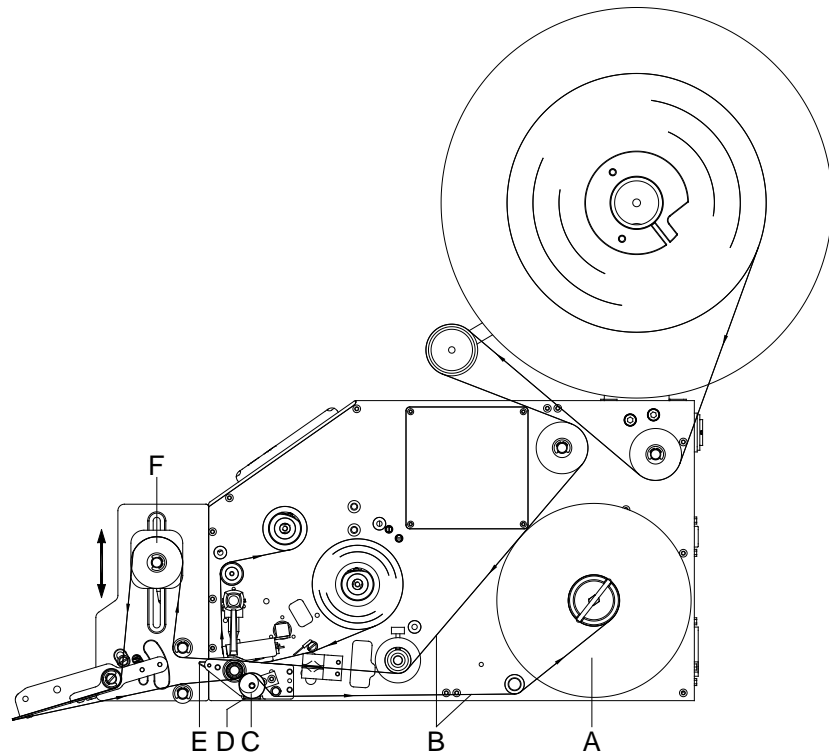

Figure 5
1. Move the dispensing rocker (D, Figure 5) forwards/upwards by pulling out the knurled knob (C, Figure 5).
2. Loosen the screw (C).
3. Change the angle position of dispensing edge (B) as required. For this shift the stop bolt (A) along the elongated hole in the base plate (D). Shift upward increases the dispensing angle and shift downward reduces the dispensing angle.
4. Fix the position of stop bolt by tightening the screw (C). If necessary insert a slotted screwdriver in the slot of the stop bolt (A) to facilitate the tightening of screw (C).
5. Turn the internal rewriter (A, Figure 5) of the printing module as long as the backing paper is again tensioned.
6. Press the dispensing rocker (D, Figure 5) again upwards and engage.
In order to stretch the backing paper (B) on the internal rewriter (A), before the dispenser rocker (D, Figure 5) must be moved forwards/upwards by pulling out the knurled knob (C, Figure 5).